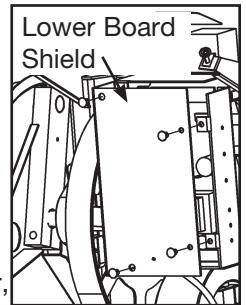

Figure 8
A. Pull out on the lower board shield (it will snap out). See Figure 8.
- E. Place the shield into position and secure using the four new finned fasteners supplied with this kit (the shield will snap in). See Figure 8.